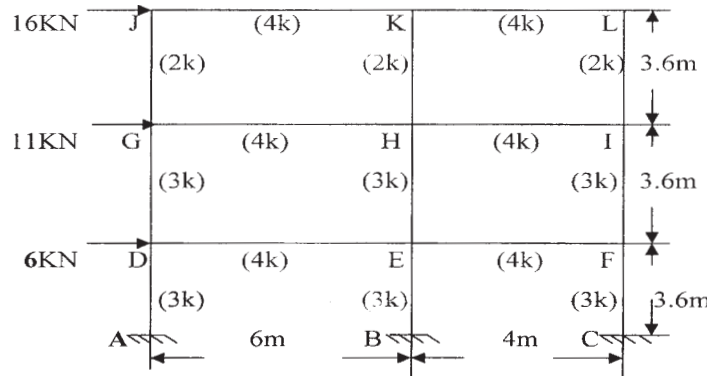

Fig. 1
**Q5)** Analyse the multistoried building frame of shown in fig. 1 for vertical load by substitute frame and for horizontal load by cantilever method. The frames are spaced 3.5 m c/c. The dead load and live load acting on panels with GH and HI are 3.6 kN/m2 and 3.5 kN/m2 respectively. The relatives stiffness of each member is marked on the figure. Also design continuous beam GHI for combined effect of vertical and horizontal loads. 15% redistribution of moments is permitted for vertical load moments. Use M20 and Fe415 materials. [25]